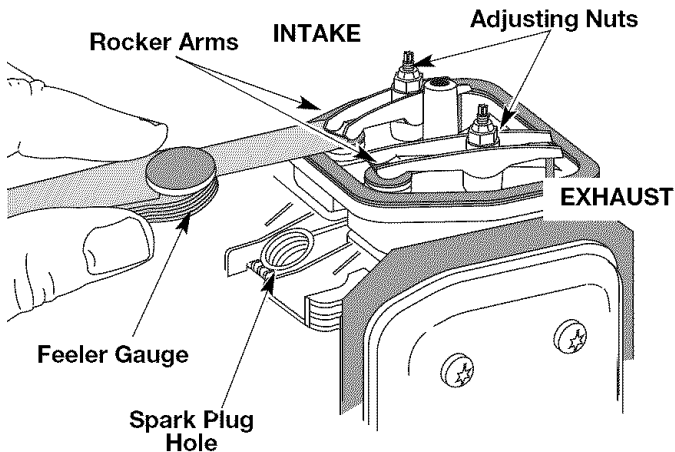

**Fig. 30**
1. Remove the six (6) screws on the back of the engine cover with a Flat-head or T-25 Torx screwdriver (Fig. 30).
4. Remove the engine cover (Fig. 30).
1. Stop the engine and allow it to cool. Remove the six (6) screws on the back of the engine cover with a Flat-head or T-25 Torx screwdriver (Fig. 30).